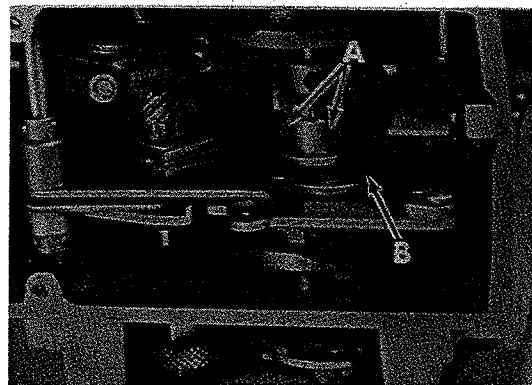

Fig. 40
Lay the machine on its side and loosen the clamp screws (A, Fig. 40) in drive cam (B). Advance the cam until the gear rack just begins to move forward. Tighten the two screws (A).